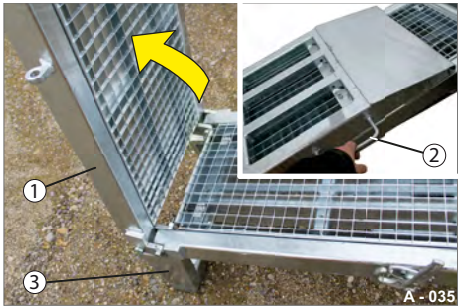

Fig. 37 Folding out the top section
- ▶ Grab the handle (Fig. 37/2).
- ▶ Fold out the top section (Fig. 37/1).